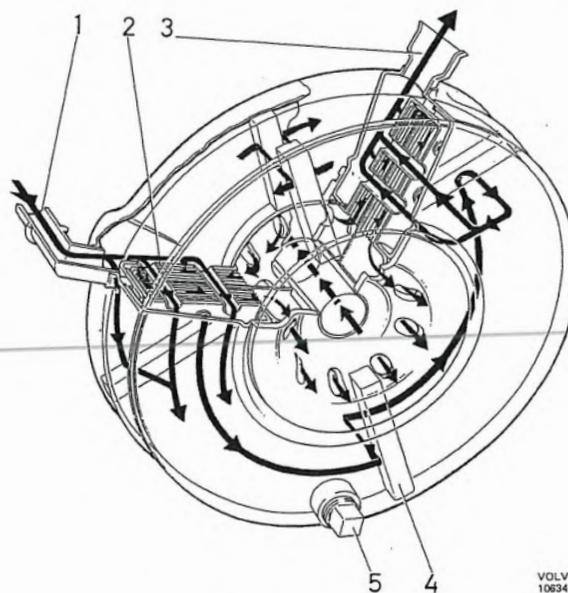

Fig. 2-49. Oil cooler
The B 20 E engine is fitted with an oil cooler. The oil cooler (Fig. 2-49) is fitted between the oil filter and the cylinder block and consists of an inner section for the oil which is surrounded by a cooling jacket. The engine coolant is led through the cooling jacket. On its way to the oil filter, the oil passes through the cooler and some of the heat in the oil is conducted away by the coolant. The coolant cannot take the shortest path from the inlet (1) to the outlet (3), but is forced by rubber seals (4) to take a zig-zag course and round the cooler, as indicated in Fig. 2-49 by the blue arrows. The discs (2) are cooled by the coolant and are divided by a plate into two compartments, which are linked at the disc periphery. Oil enters the first compartment, nearest the engine block (see red arrows), and is forced the length of the discs (2) into the other compartment and then along its discs, and thereafter into the oil filter.